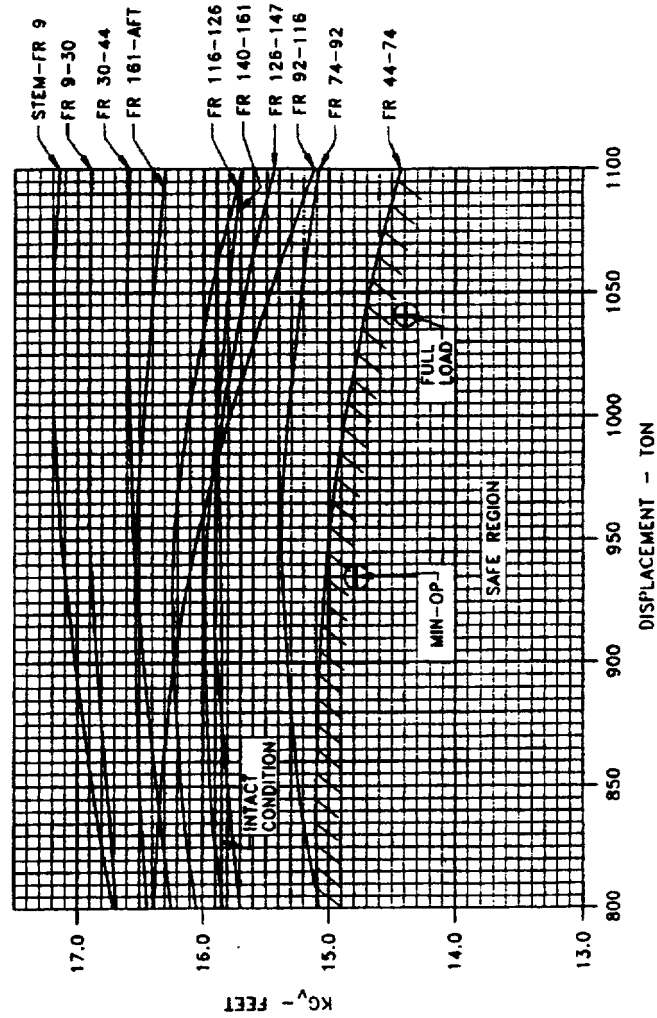

Fig. 7-9 Limiting KG Diagram
- j An important diagram is the Limiting KG Diagram (**Figure 7-9**). The Limiting KG Diagram present the upper limits of the vertical center of gravity (KG) to ensure the cutter has adequate transverse stability and does not capsize in either intact or damaged conditions. KG, the distance from the keel to the center of gravity, is directly proportional to GM, and is another good measure of stability. The allowable KG diagram assumes several cases of severe damage and then determines the maximum KG the vessel can have and still have sufficient stability. A WLB is reasonably safe as long as its KG plots below of applicable damage condition curves.